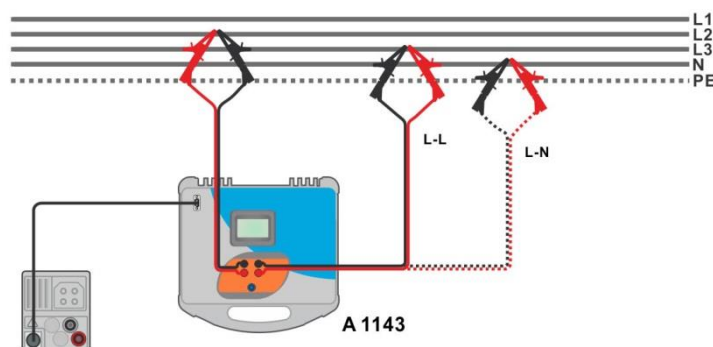

Figure 7.46: Phase-neutral or phase-phase high precision Line impedance measurement – Connection of A 1143
- Connect test leads to the object under test, see **Figure 7.46**.